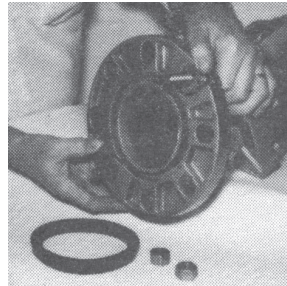

Fig. 3E
3. When in place, the gasket will be seated and flush with the valve body ends. **NOTE:** Care should be taken to ensure that the gasket is not pinched or bent between the flanges (Fig. 3E).